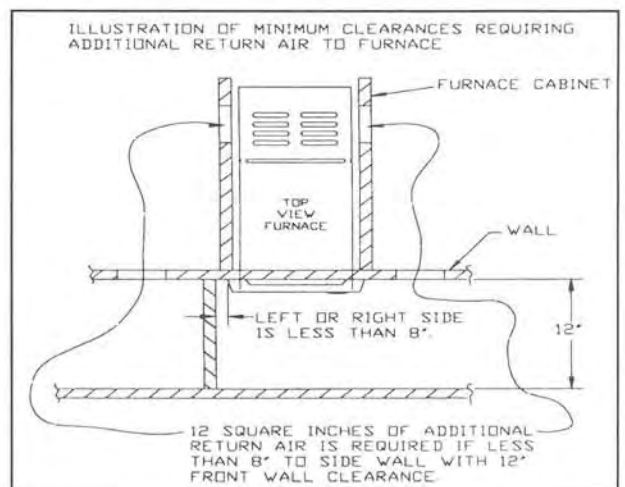

Figure 9
*NOTE: Must provide an additional 12 sq. in. of return air when side clearance is 0" - 8" (See Figure 9)